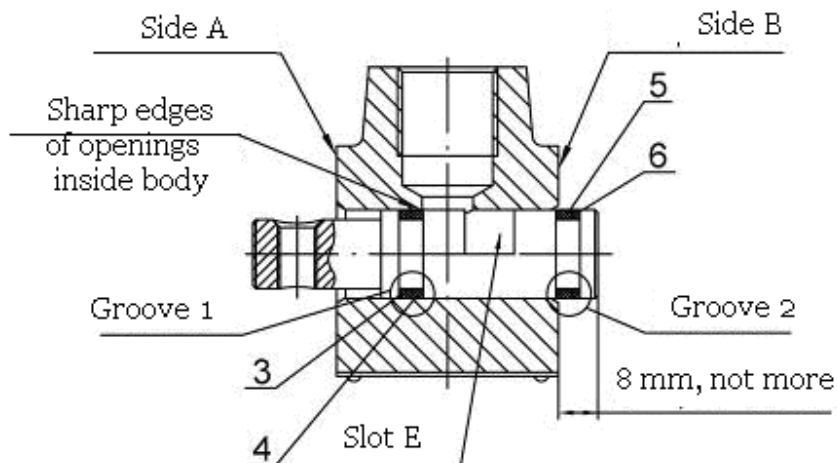

Figure 7.8
- a) move control valve 5 (Figure 7.8) towards side "B" by 7...8 mm, maximum! (to avoid cutting rings 3 and 4 against sharp edges of three inside openings in the body);